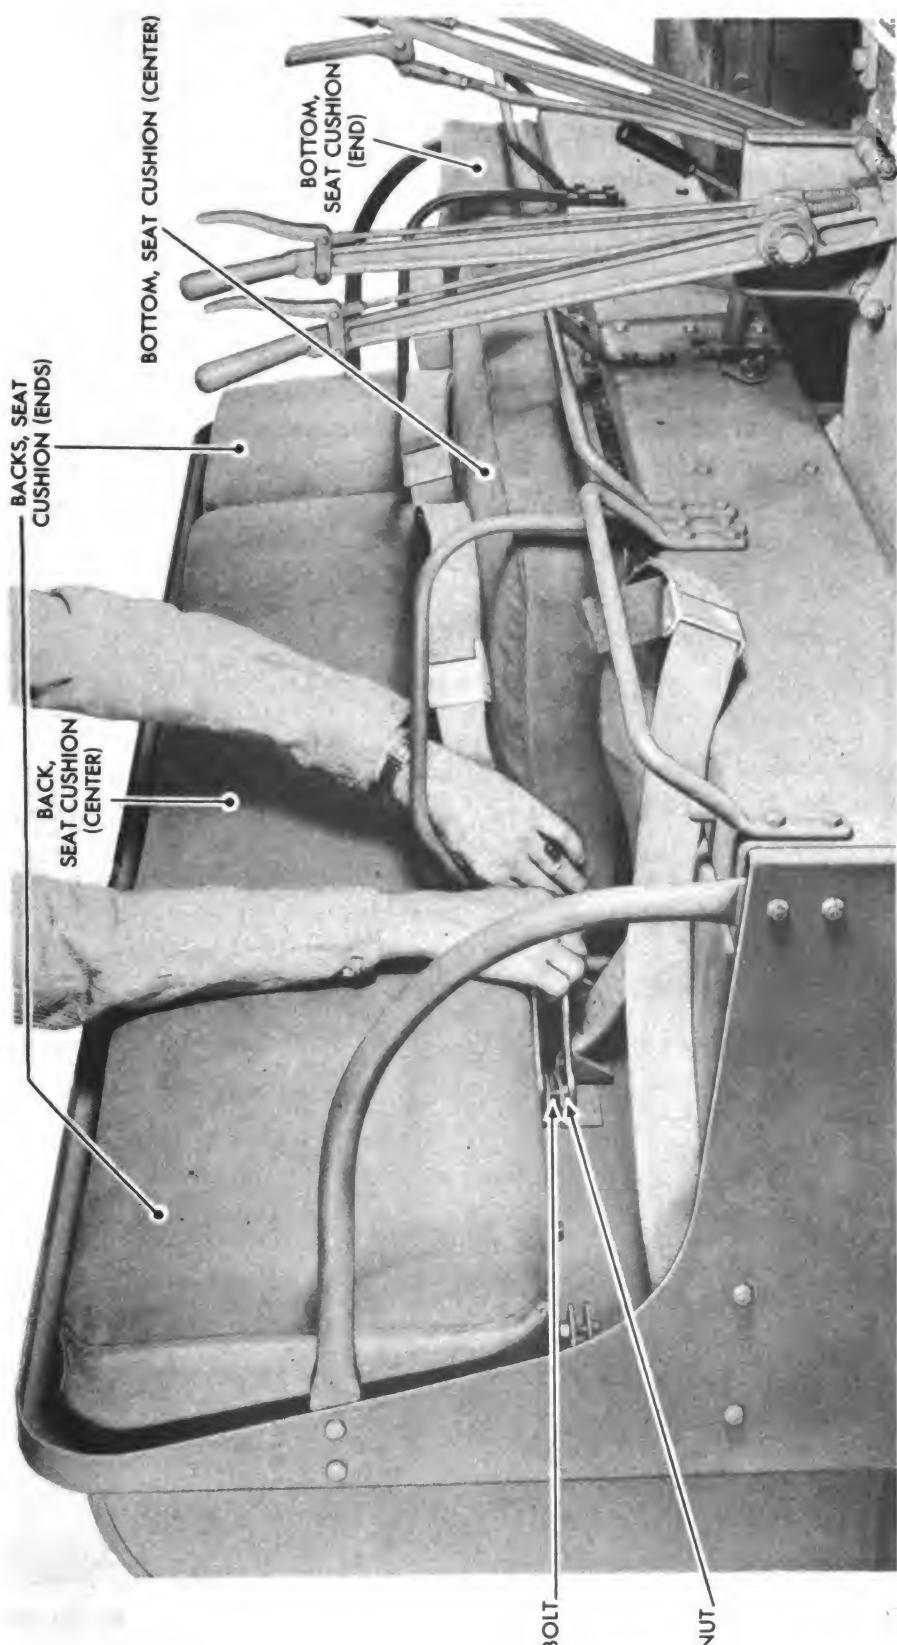

Figure 186 — Seat Cushion Back Removal
(2) REMOVE SEAT CUSHIONS AND BACKS (fig. 186).